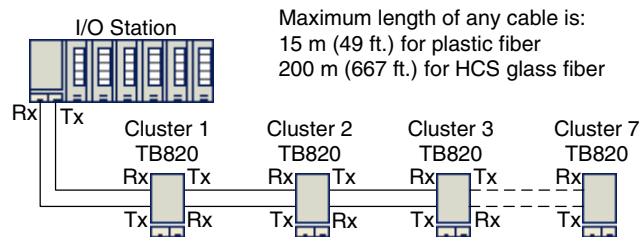

Figure 11. Optical ModuleBus and I/O Clusters, Duplex Communication
- duplex communication configuration. See Figure 11.